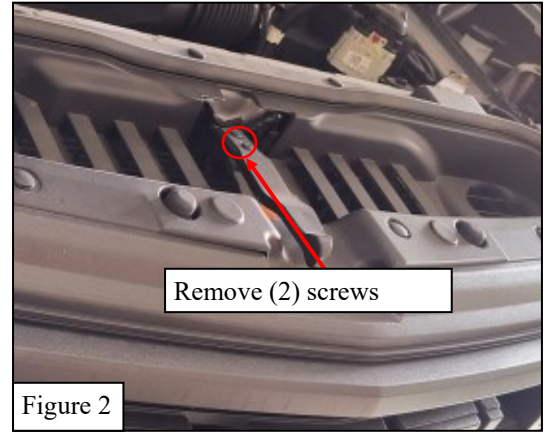

Figure 2
3. Remove the two screws as seen in **Figure 2** using the Torx Wrench T10 screwdriver, once removed pull the lever towards you to remove. Remove plastic by pulling up.